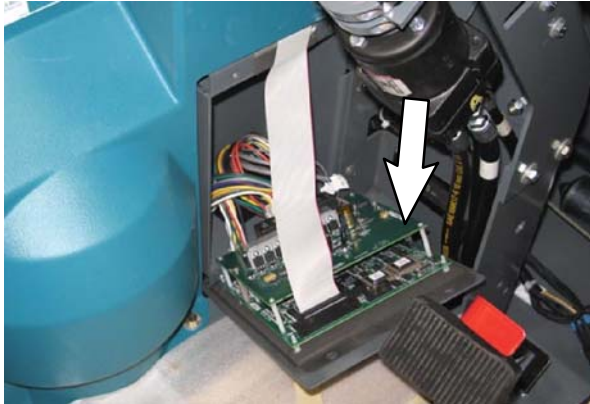
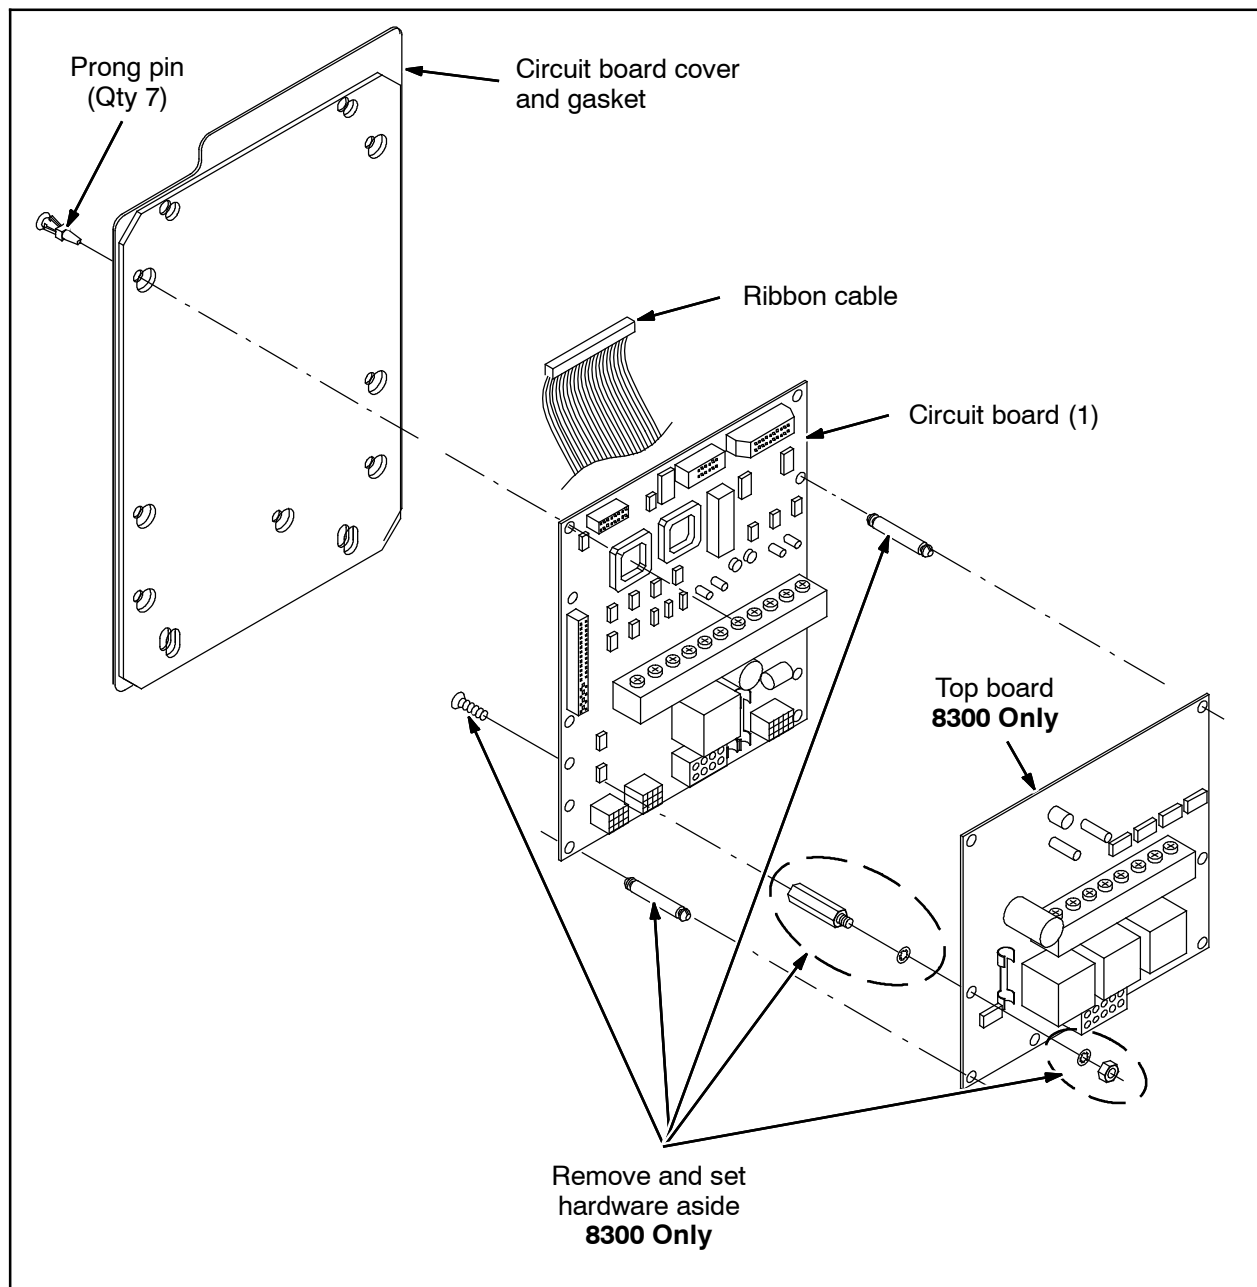
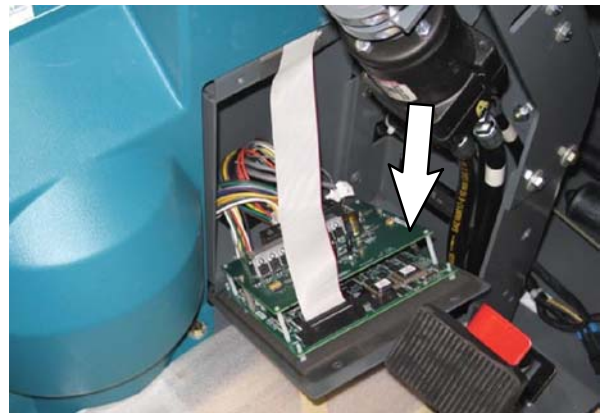

FIG. 4
FIG. 6
FIG. 8
3. **8300 Only:** Remove the top board from the circuit board assembly. Set removed items aside. (Fig. 4 / Fig. 6)
4. Disconnect the wire harnesses and ribbon cable from the circuit board assembly. (Fig. 6)
5. Carefully remove the circuit board from the cover and gasket. Do not break the prong pins when removing the circuit board from the cover and gasket. (Fig. 6)
6. Install the new circuit board (1) onto the cover and gasket and connect the ribbon cable and wire harness to the circuit board. (Fig. 6)
7. **8300 Only:** Reinstall the top board onto the circuit board assembly. (Fig. 4 / Fig. 6)
5. **8300 Only:** If necessary, remove the top board to make access to the bottom board easier. (Fig.8 / Fig. 6)
8. **8300 Only:** Reinstall the top board onto the circuit board assembly if the top board was removed to access the circuit board. (Fig. 8 / Fig. 6)